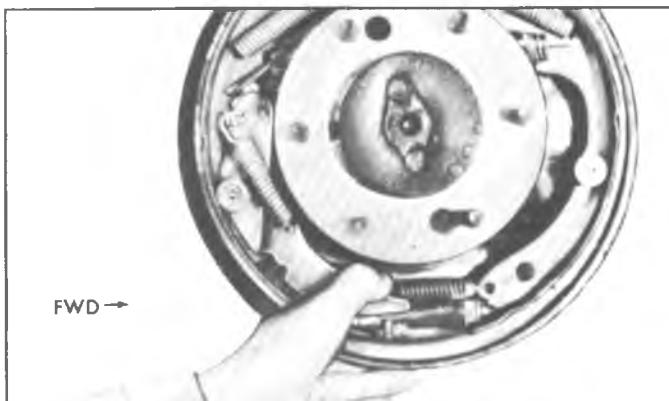

Fig. 50-Checking Actuating Lever
- After completing installation, make certain the actuator lever functions easily by hand operating the self-adjusting feature (fig. 50).